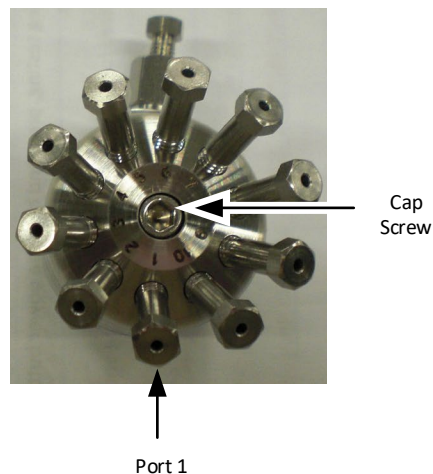

Fig. 7.18. One-Screw Cap, Showing Port 1 Orientation
1. Remove the hex head cap screw from the center of the valve cap (see Figure 7.18).
12. Install the cap over the alignment pins with port number 1 opposite the air inlet (see Figure 7.18).